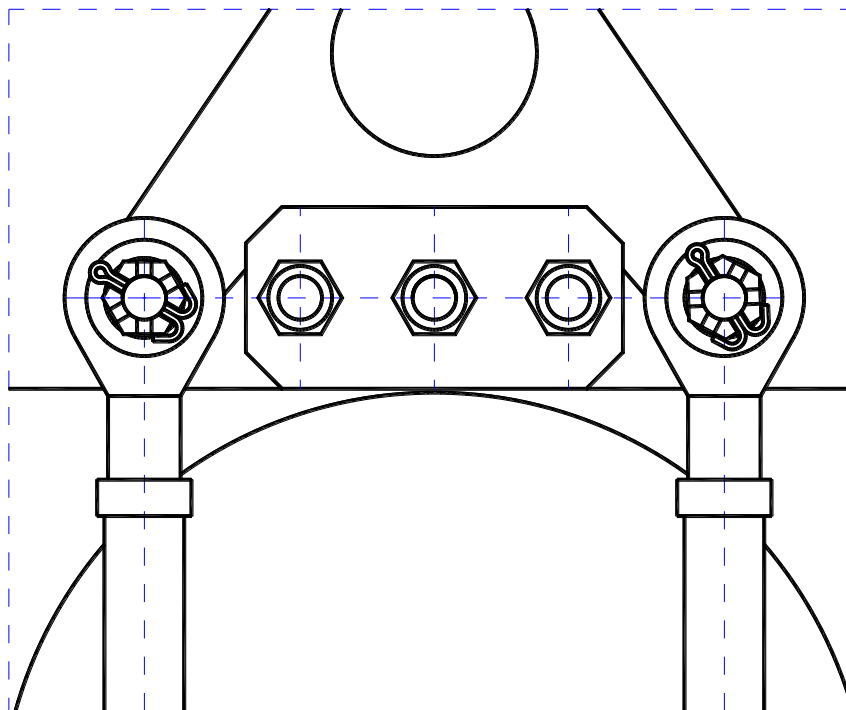

Fig. 8-4 Ailerons drive connection in the fuselage
- f) Ailerons drive is to be connected in the cockpit by placing rods eyes on the drive lever pins in the bottom part of the wing. Tight the castellated nuts and secure with cotter pins (Figure 8-4)